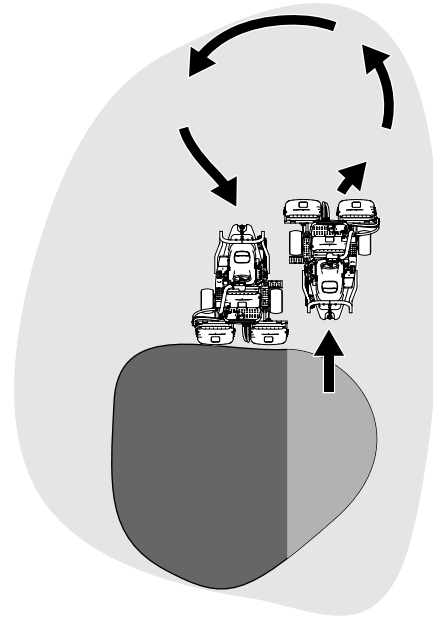

Figure 23
6. To cut down on operating time and ease lineup for the next pass, momentarily turn the machine in the opposite direction, then turn it in the direction of the uncut portion; a tear-shaped turn (Figure 23) to quickly line up for your next pass.